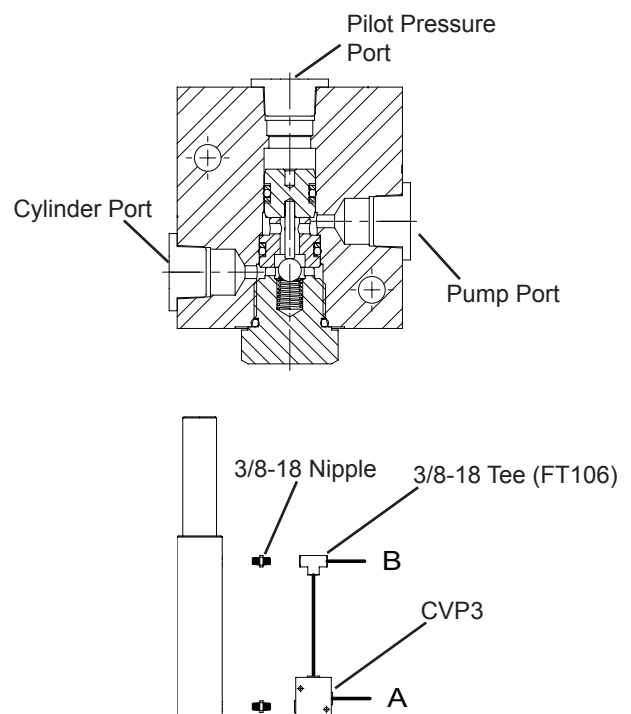

Figure 2 - Double-acting cylinder configuration.
- 3) If the pump is double-acting ("A" and "B" ports), connect "Pump" port to "A" port on pump, and "Cylinder" port to "A" port on cylinder via 3/8-18 NPTF nipple (not included, ref. Figure 2).